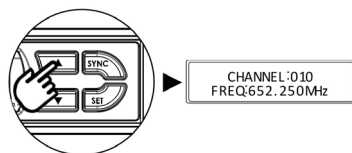

Figure 2
2. Press UP or DOWN button to select a new channel. As the channel changes, the frequency changes accordingly (Fig 2).